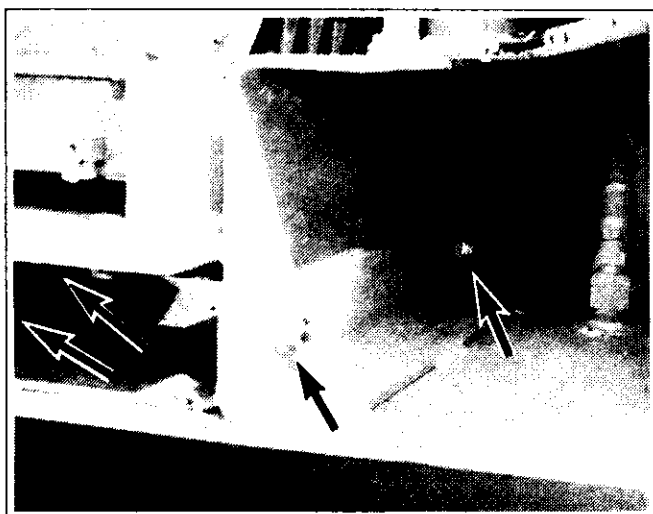

Figure 7-3
12. Locate and remove the four (4) 1/2 inch carriage bolts securing the engine cradle to the main frame. (See figure 7-3)